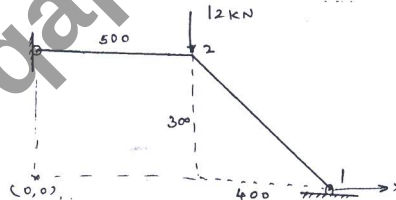

Fig. Q6(b)
b. For the two-bar truss shown in Fig. Q6(b) determine the nodal displacement. Take $E = 200 \text{ GPa}$; $A_1 = A_2 = 200 \text{ mm}^2$. (12 Marks)